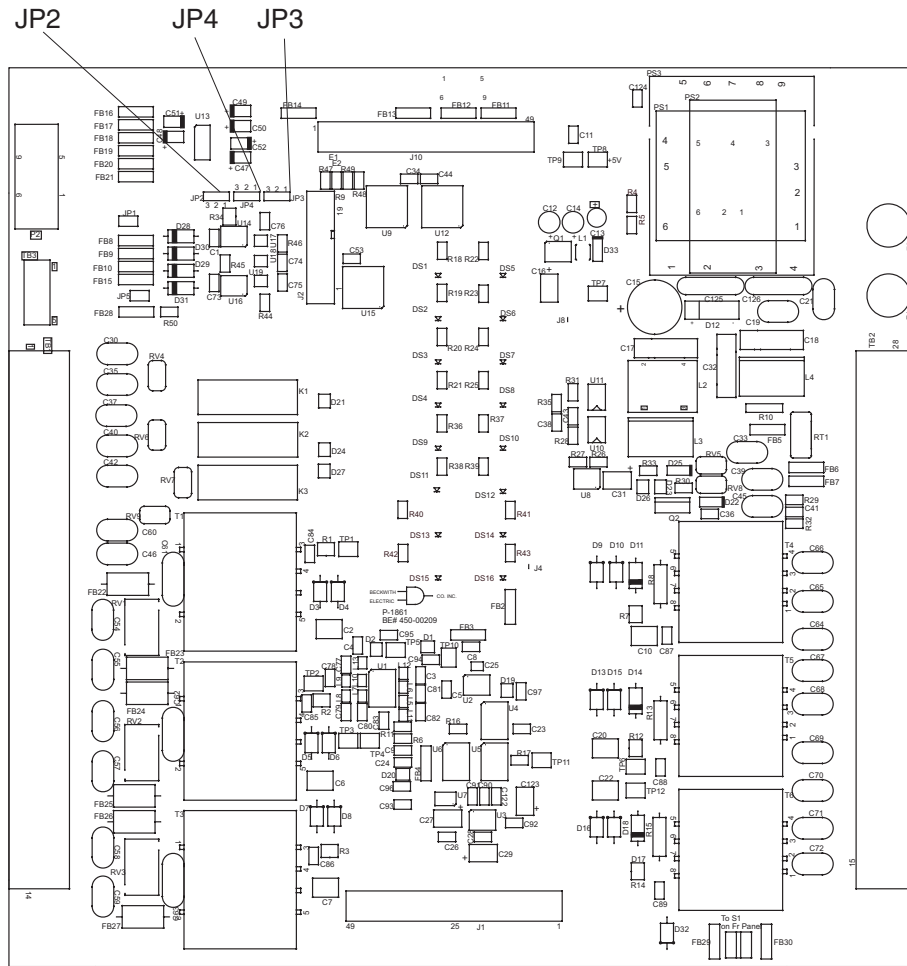

Figure 2-24 M-3410A IO Board
5. JP2, JP3, and JP4 are now accessible. See Figure 2-24, M-3410A I/O board for locations.